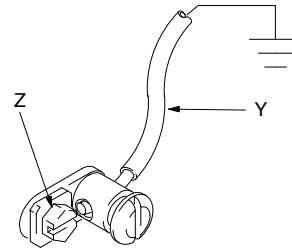

FIG. 1
**Pump:** Use a ground wire and clamp as shown in FIG. 1.
**To ground the pump:** remove the ground screw (Z) and insert through the eye of the ring terminal at end of the ground wire (Y). Fasten the ground screw back onto the pump and tighten securely. Connect the other end of the ground wire to a true earth ground. See Fig. To order a ground wire clamp, order Part. No. 222011.